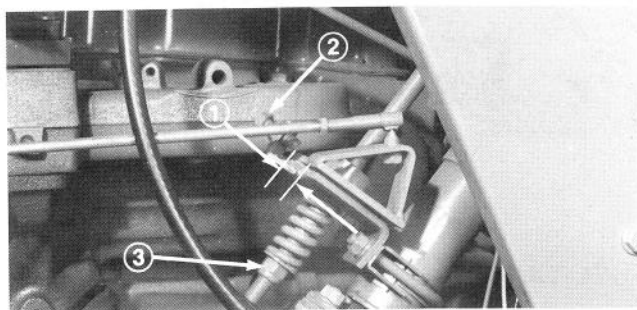

Figure 52
2. Adjust the low speed stop screw so 1/8 inch (3 mm) protrudes through the bracket as shown in Figure 52. Secure with the jam nut.
8. If the throttle lever "creeps" at high speeds, tighten the lever tension nut (Fig. 52) to apply additional tension to the lever.